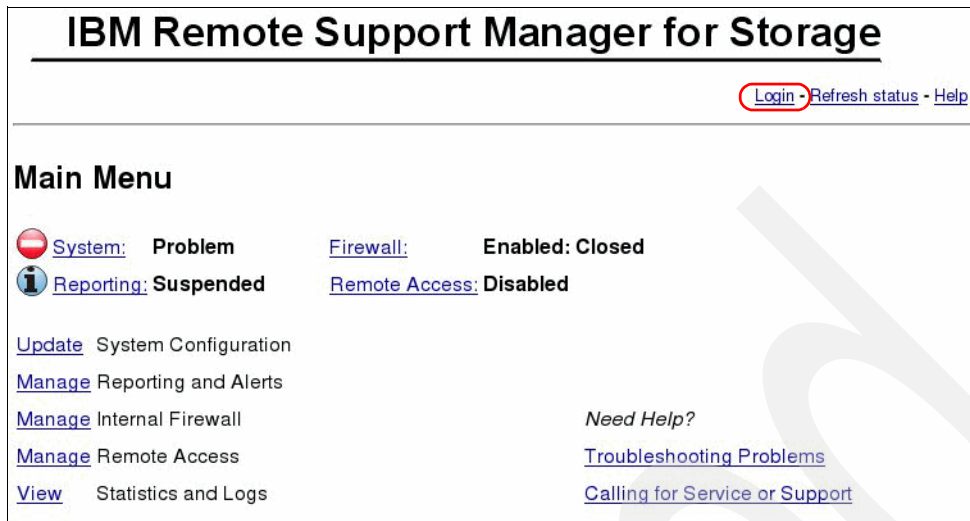

Figure 15-3 RSM Administration window
- c. Click the **Manage** icon on the desktop to open the Web browser, which displays the main administration window shown in Figure 15-3 on page 363. Click **Login**.